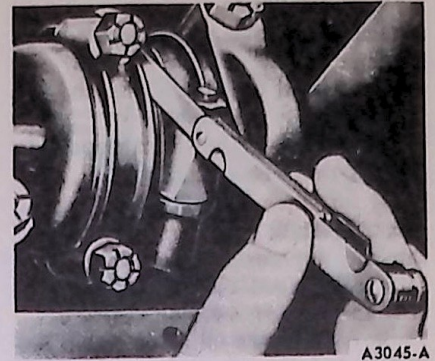

FIG. 27 Checking Connecting Rod Side Clearance
9. After the piston and connecting rod assemblies have been installed, check the side clearance between the connecting rods on each connecting rod crankshaft journal (Fig. 27).